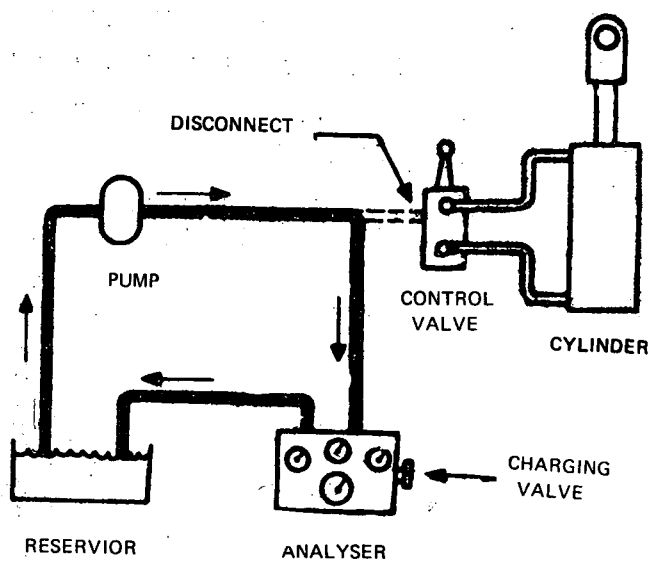

Fig. 1
- c) Connect this tubing to the intake of the analyser (Fig. 1).